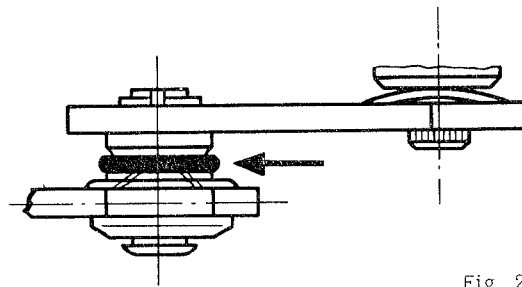

Fig. 2
2. A rubber spacer washer (spare part No. 999.704.122.50) must be installed between the crank of the windshield wiper arm bearing and the joint bar, see Fig. 2.